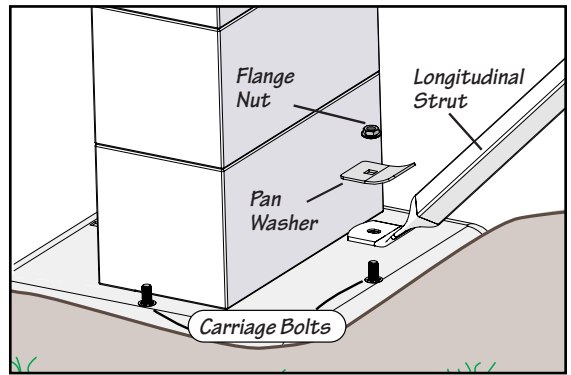

Fig. 4-1
- Slide a pan washer over the carriage bolt, install a flange nut over the carriage bolt as show right in Fig. 4-1